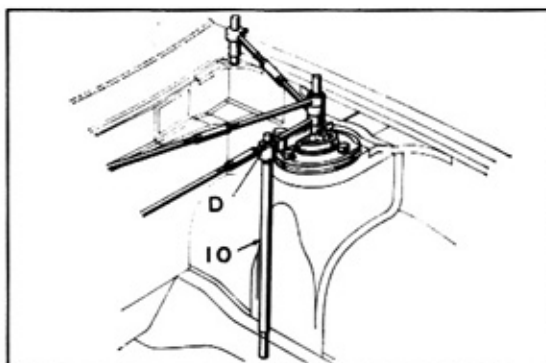

Fig. 6-64 Gauge "D" Measurement
(3) Read the height from front suspension support surface to the side member on gauge "D" of (10).
Note : Set (10) as shown in Fig. 6-64 and read gauge "D" scale.